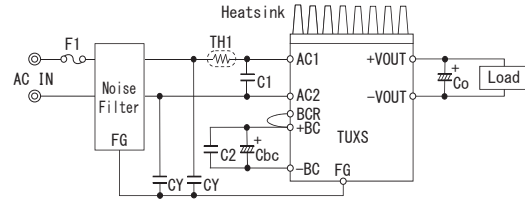

Fig.2.1 Connection for standard use
- To use TUXS series, connection shown in Fig.2.1 and external components are required.
(1) Co : Output capacitor
- Install an external capacitor Co between +VOUT and -VOUT pins for stable operation of the power supply (Fig.2.1). Recommended capacitance of Co is shown in Table 3.3.